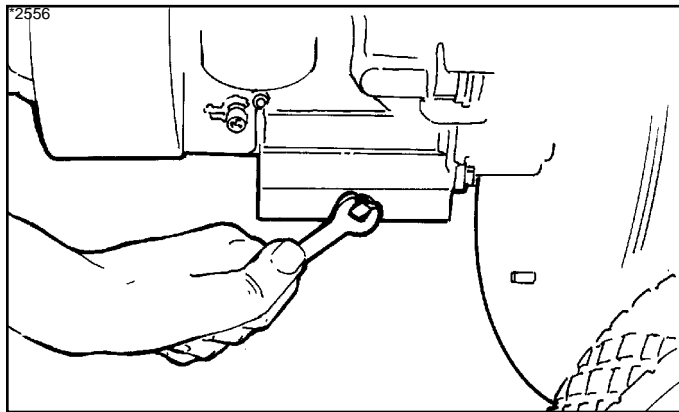

Figure 16. Engine Oil Drain Plug
1. Drain engine oil by unscrewing drain plug (Figure 16) in the engine base and letting oil drain into a suitable container.